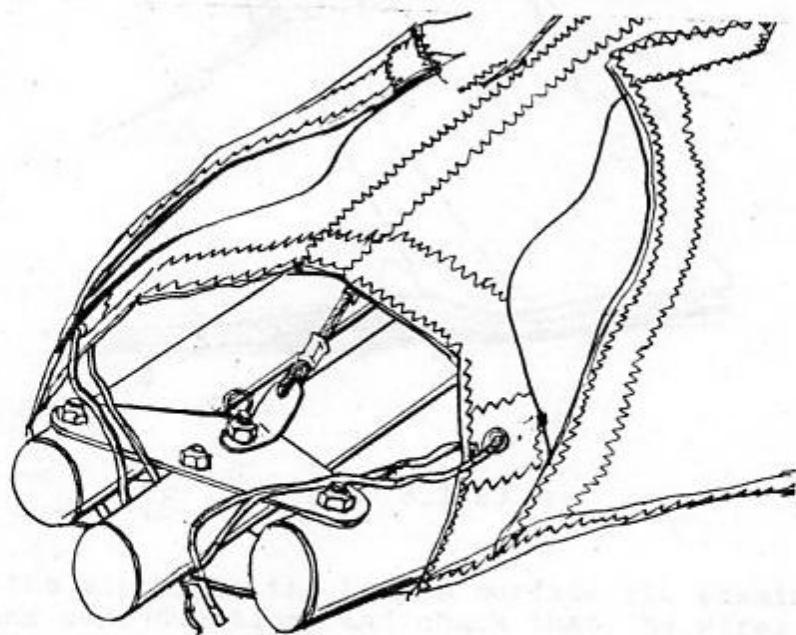

Fig. 3.1.31.
17. Fit the nose sail restraint over the nose junction (Fig. 3.1.31).